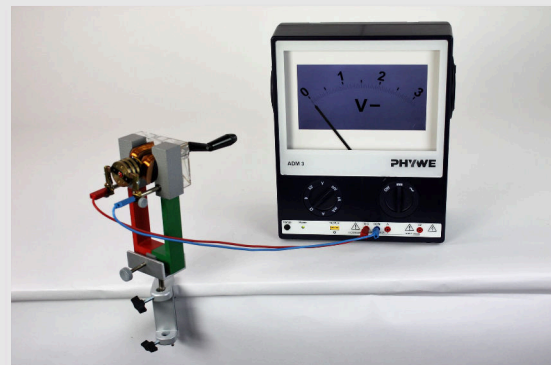

Fig. 3
- Set up the experiment according to Fig. 3.